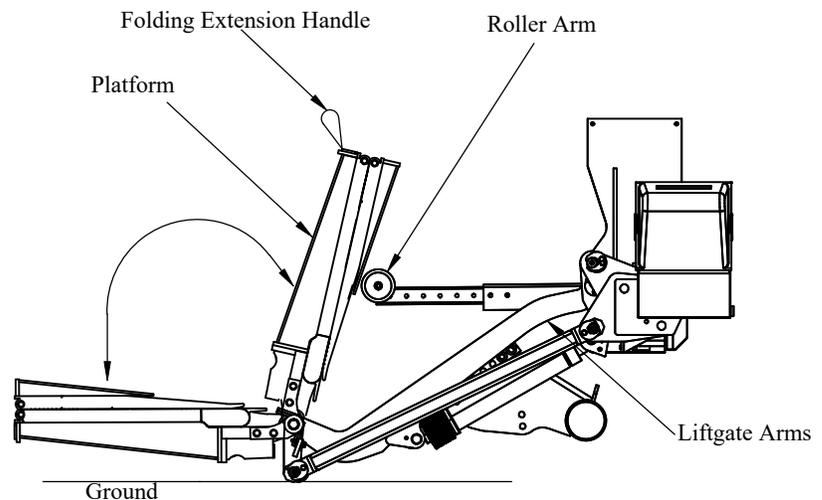

Figure 37: Step 6.
6. With the liftgate arms touching the ground, stand off to the side, and unfold the platform (Figure 37).
- To close the platform, stand to the side of the platform, not under or behind the platform. With the liftgate lowered, close and lock the platform cart stops, if so equipped, then fold the folding extension by lifting on the handle (Figure 37).